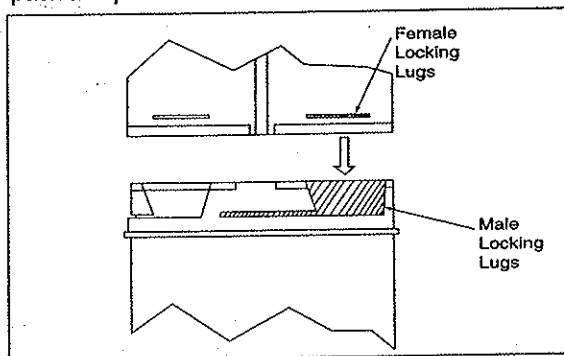

Figure 5 - Twist-lock procedure
The Dura-Vent GS is unitized and twist-locks together. For the twist-lock procedure, consult Figure 5 and do the following:
(1) Four indentations, located on the female ends of pipes and fittings, are designed to slide straight onto the male ends of adjacent pipes and fittings, by orienting the four pipe indentations so they match and slide into the four entry slots on the male ends. See Figure 5. Push the pipe sections completely together, then twist-lock one section clockwise approximately one-quarter turn, until the two sections are fully locked. The female locking lugs will not be visible from the outside, on the Black Pipe or fittings. They may be located by examining the inside of the female ends.
(2) Horizontal runs of vent must be supported every three feet. Wall Straps are available for this purpose. Before connecting the horizontal run of vent pipe to the vent termination, slide the black decorative wall thimble cover over the vent pipe.
(1) Four indentations, located on the female ends of pipes and fittings, are designed to slide straight onto the male ends of adjacent pipes and fittings, by orienting the four pipe indentations so they match and slide into the four entry slots on the male ends. (Figure 5.) Push the pipe sections completely together, then twist-lock one section clockwise approximately one-quarter turn, until the two sections are fully locked. The female locking lugs will not be visible from the outside, on the Black Pipe or fittings. They may be located by examining the inside of the female ends.
(2) Horizontal runs of vent must be supported every three feet. Wall Straps are available for this purpose.